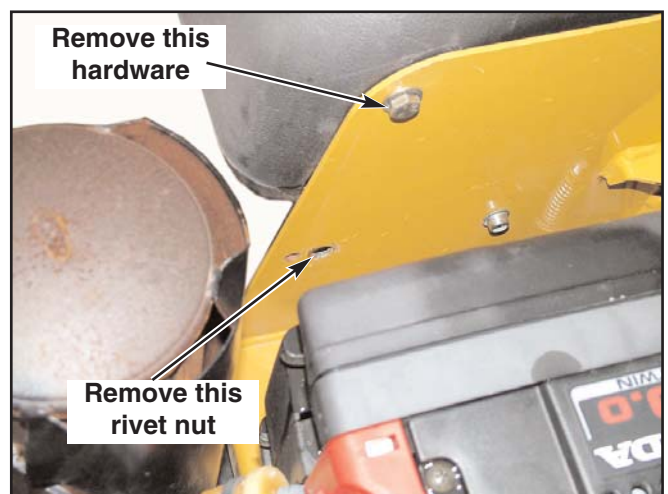

Figure 3-23
3. Remove the lower left rear rivet nut. Fig. 3-23
4. Remove the left rear upper and lower fuel tank mounting bolts. Fig. 3-23
**WARNING:** Never engage mower deck unless both bags are installed and the hood is lowered. Also, both transfer tubes must be in place on the blower outlet and the hood assembly and the bungee cord is connected. Fig. 3-19 & Fig. 3-23